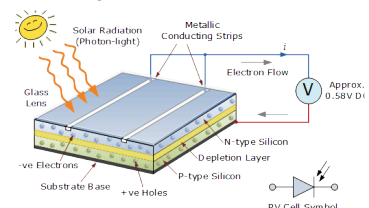

Figure 1: Solar Cell (source: Alternative Energy Tutorials)
A PV panel consists of multiple solar cells which are electrical devices. These cells convert light into direct current (DC) electrical power which is transported via cables to an inverter which turns the DC energy into alternating current (AC) power, see Figure 1.